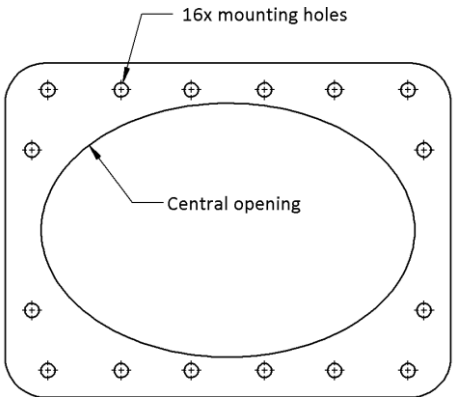

Figure 7 – Backing plate for bolt-on thrusters
1. Place the thruster backing plate at the desired location and trace the central opening (see Figure 7 on the next page).